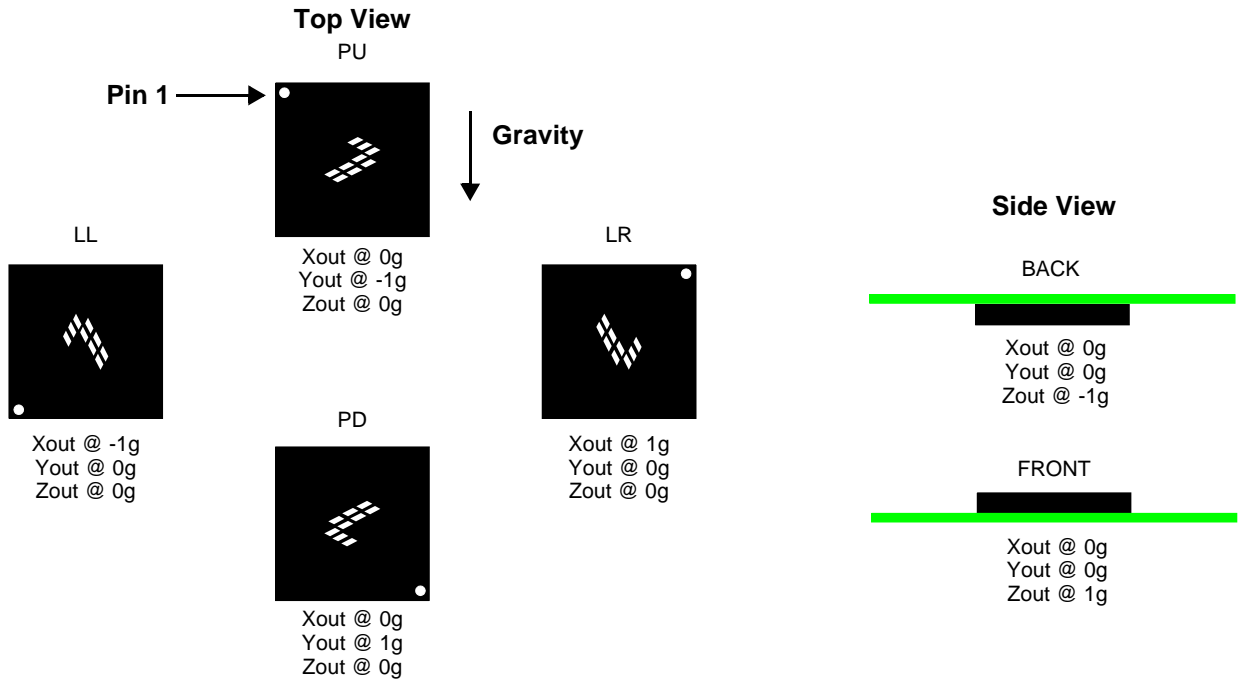

Figure 6. Sensing direction and output response
**VDDA and VSSA:** Analog power and ground. VDDA is nominally 1.8V. To optimize performance, the VDDA line can be filtered to remove any digital noise that can be present on the 1.8V supply. (See Figure 5 and Figure 6 on page 17.)